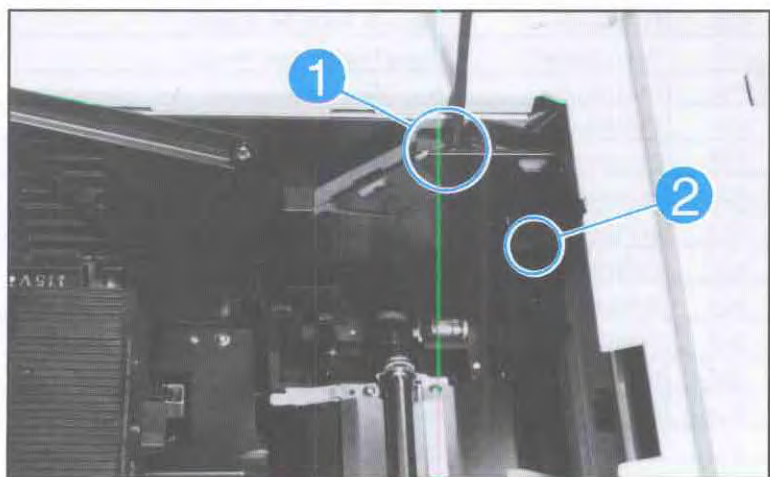

Figure 7-8. Defeating PS1 Sensor.
- To defeat the Top Cover Closed Sensor (PS1), press a screwdriver into the channel where the right front corner of the Top Cover would meet the printer body and hold the interlock switch down (see Figure 7-8, callout 1). Then push down on either of the two toner cartridge sensitivity switches (see Figure 7-8, callout 2).